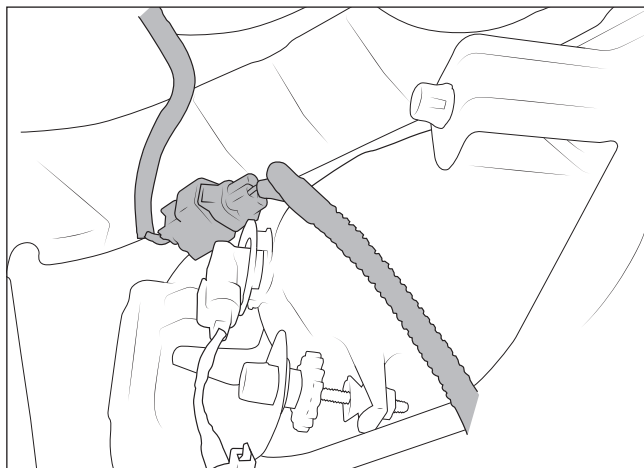

Figure 4
4. Disconnect the bumper harness at the connector on the left side of the bumper (fig. 4).